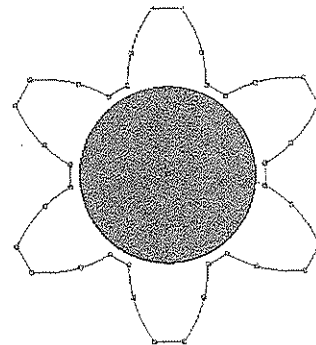

Figure 5-81 Sketch after trimming unwanted entities
22. After all the instances are created, you need to trim the unwanted entities by using the **Trim** tool. The sketch after the unwanted entities are removed will appear as shown in Figure 5-81.